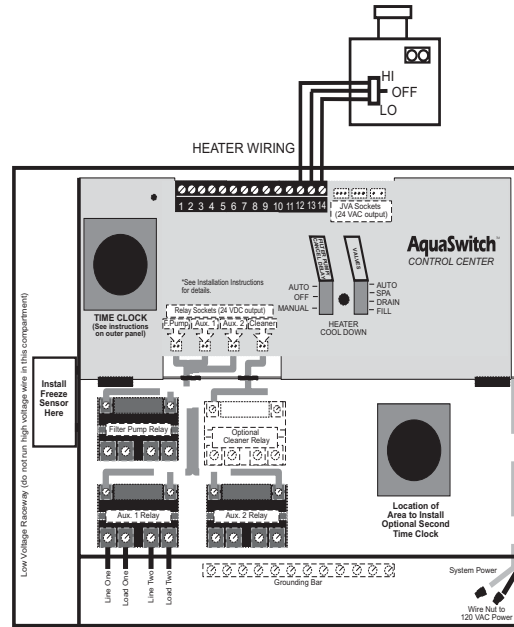

Figure 3. Dual Thermostat Heater Connection
**Dual Thermostat:** Connect three 18 AWG wires rated for 105 degrees C in parallel with the heater's thermostats (See **Fig. 3 - Dual Thermostat Heater Connection** on Page 7). Set the heater's thermostats to desired pool and spa temperatures and place heater's selector switch in the **OFF** position.